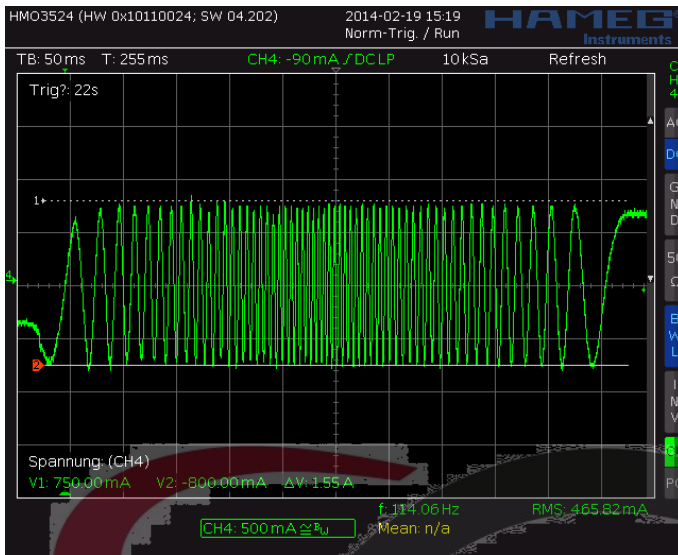
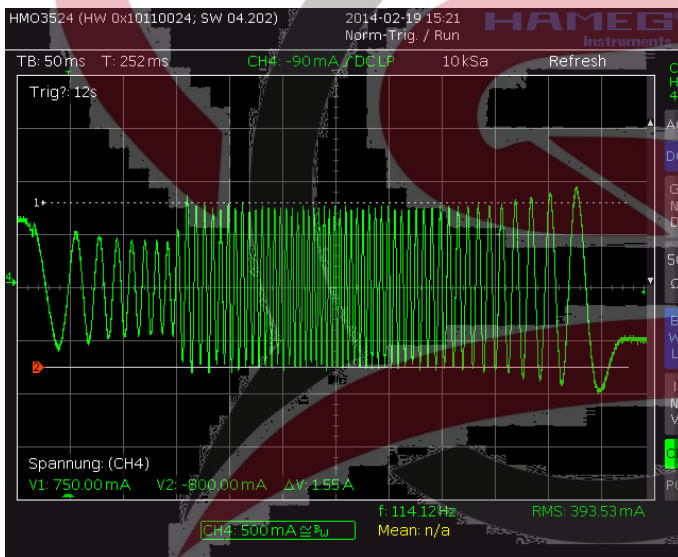
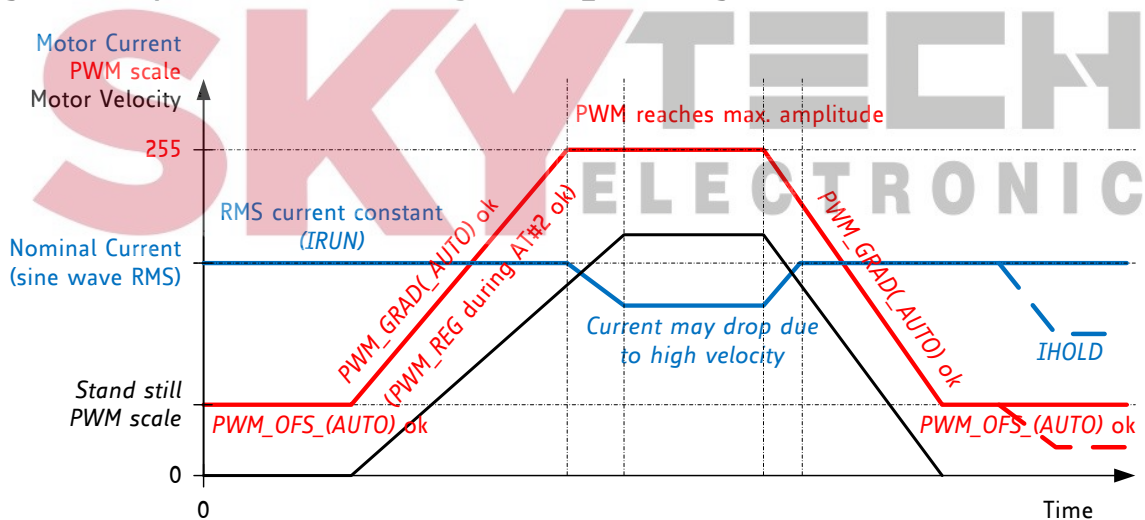

Figure 7.3 Scope shot: good setting for PWM\_REG
Figure 7.4 Scope shot: too small setting for PWM\_REG during AT#2
Figure 7.5 Successfully determined PWM\_GRAD(AUTO) and PWM\_OFs(AUTO)
In StealthChop voltage PWM mode, the autoscaling function ( $pwm\_autoscale = 1$ ,  $pwm\_auto\_grad = 1$ ) regulates the motor current to the desired current setting. Automatic scaling is used as part of the automatic tuning process (AT), and for subsequent tracking of changes within the motor parameters. The driver measures the motor current during the chopper time and uses a proportional regulator to regulate  $PWM\_SCALE\_AUTO$  in order match the motor current to the target current.  $PWM\_REG$  is the proportionality coefficient for this regulator. Basically, the proportionality coefficient should be as small as possible in order to get a stable and soft regulation behavior, but it must be large enough to allow the driver to quickly react to changes caused by variation of the motor target current (e.g. change of VREF). During initial tuning step AT#2,  $PWM\_REG$  also compensates for the change of motor velocity. Therefore, a high acceleration during AT#2 will require a higher setting of  $PWM\_REG$ . With careful selection of homing velocity and acceleration, a minimum setting of the regulation gradient often is sufficient ( $PWM\_REG=1$ ).  $PWM\_REG$  setting should be optimized for the fastest required acceleration and deceleration ramp (compare Figure 7.3 and Figure 7.4). The quality of the setting  $PWM\_REG$  in phase AT#2 and the finished automatic tuning procedure (or non-automatic settings for  $PWM\_OFS$  and  $PWM\_GRAD$ ) can be examined when monitoring motor current during an acceleration phase Figure 7.5.